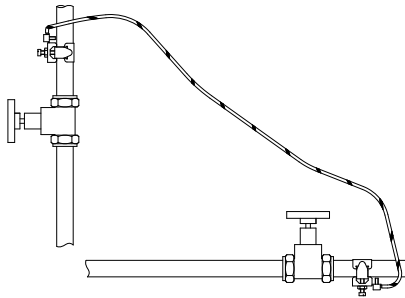

Fig. 7
- 3.15 **Adjacent pipes:** Adjacent suction and delivery pipes should be fitted with earthing clamps in accordance with current regulations (Fig. 7).